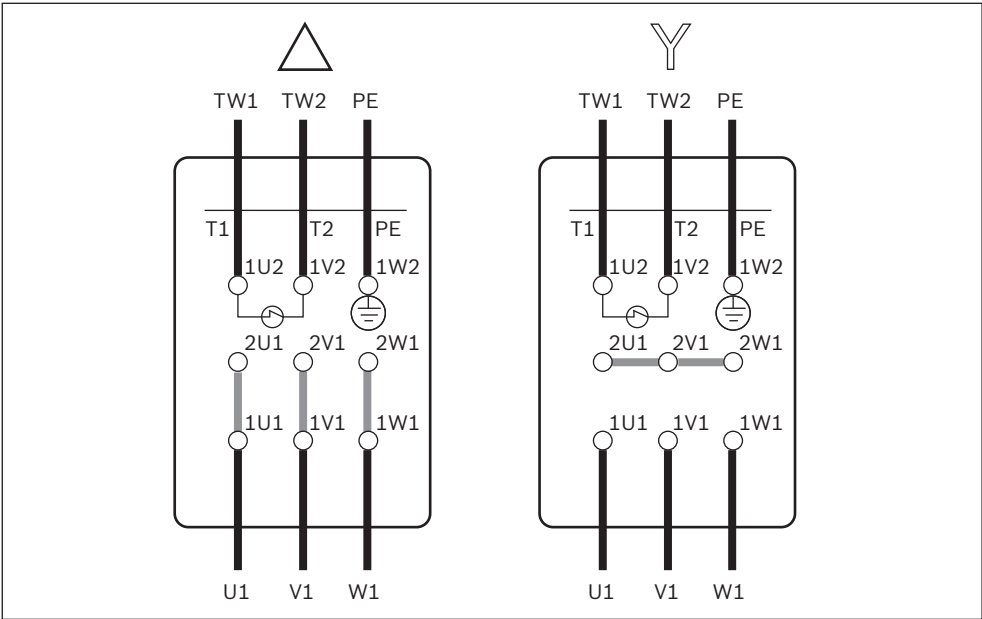

Fig. 9: Delta/ye wiring diagrams
- Connect the motor in either a wye or a delta configuration in accordance with the wiring diagrams, see Fig. 9 on page 22, and the wiring diagram in the terminal box.
- Switch any two wires (U1, V1 or W1, see Fig. 9 on page 22) to change the motor's rotational direction.